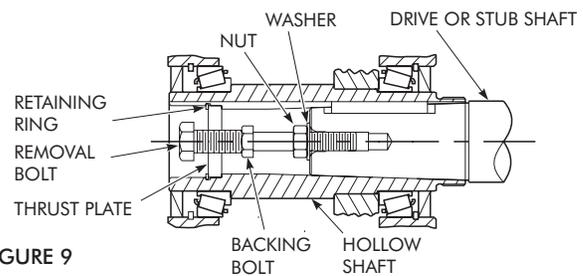

FIGURE 9
- Install backing bolt, nut and flat washer into drive shaft as illustrated in Figure 9. The head of the backing bolt provides a working surface for the removal bolt.
- Install backing bolt, nut and flat washer into drive shaft as illustrated in Figure 9, Page 6. The head of the backing bolt provides a working surface for the removal bolt.